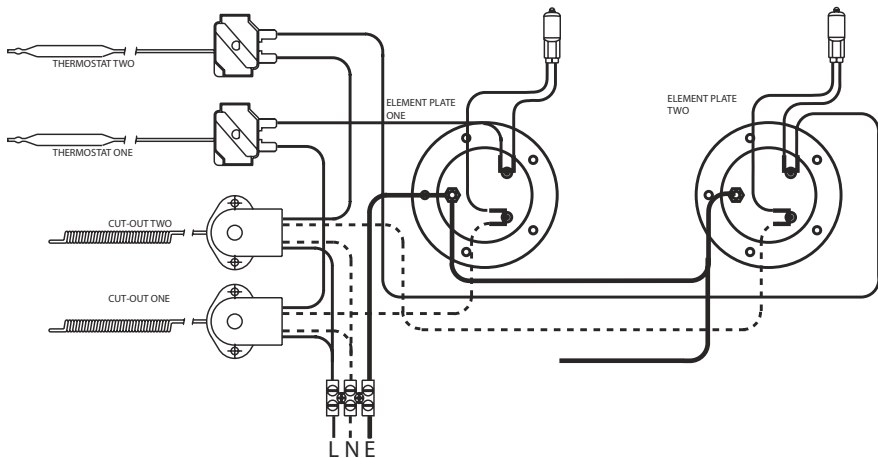

Figure 4: Wiring diagram
5.3 The Multipoint water heaters have two elements. Each element has its own thermostat and thermal cut out, refer to Figure 4 for wiring details.
- 8.9 Re-assemble the element plate assembly fitting a new sealing gasket. Rewire the unit with reference to Figure 4 (wiring diagram).